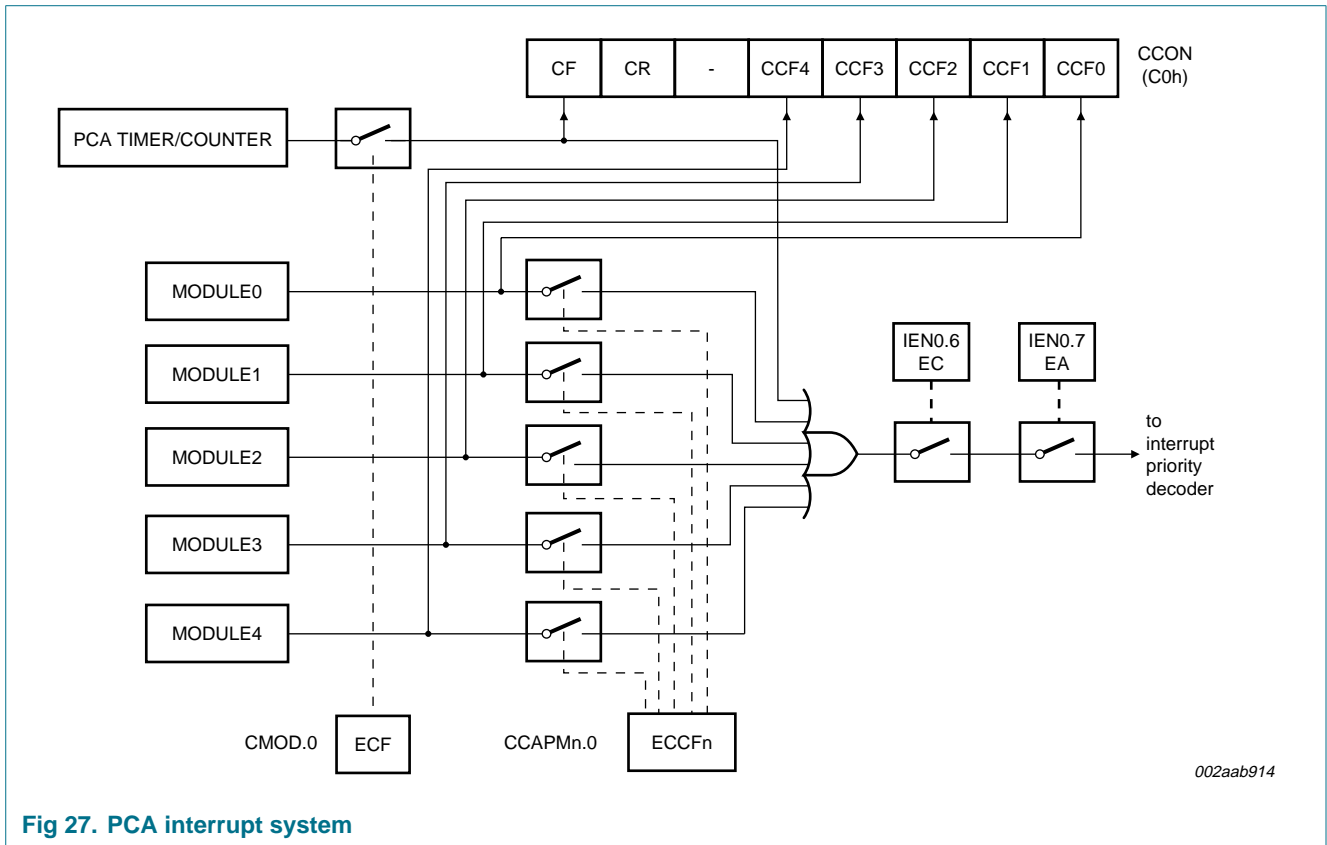

Fig 27. PCA interrupt system
The CCON SFR contains the run control bit for the PCA (CR) and the flags for the PCA timer (CF) and each module (CCF4:0). To run the PCA the CR bit (CCON.6) must be set by software. The PCA is shut off by clearing this bit. The CF bit (CCON.7) is set when the PCA counter overflows and an interrupt will be generated if the ECF bit in the CMOD register is set. The CF bit can only be cleared by software. Bits 0 through 4 of the CCON register are the flags for the modules (bit 0 for module 0, bit 1 for module 1, etc.) and are set by hardware when either a match or a capture occurs. These flags can only be cleared by software. All the modules share one interrupt vector. The PCA interrupt system is shown in Figure 27.
The ECCF bit (from CCAPMn.0 where n = 0, 1, 2, 3, or 4 depending on the module) enables the CCFn flag in the CCON SFR to generate an interrupt when a match or compare occurs in the associated module (see Figure 27).